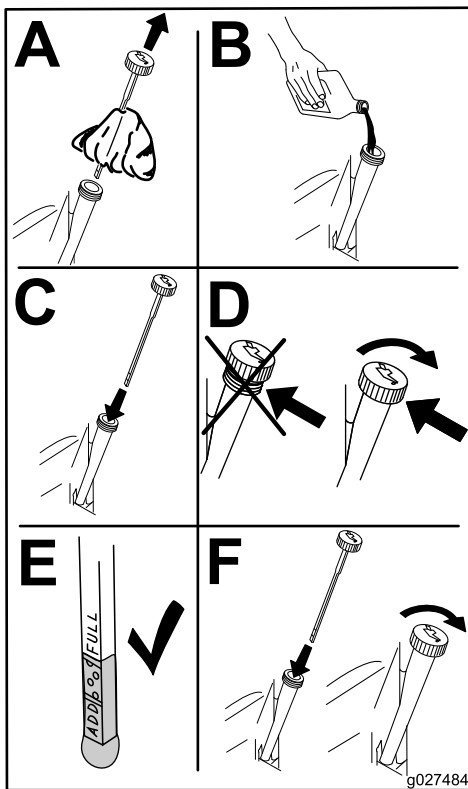

Figure 30
6. Slowly pour approximately 80% of the specified amount of oil into the fill hole (Figure 30).
7. Check the oil level; refer to Figure 30.